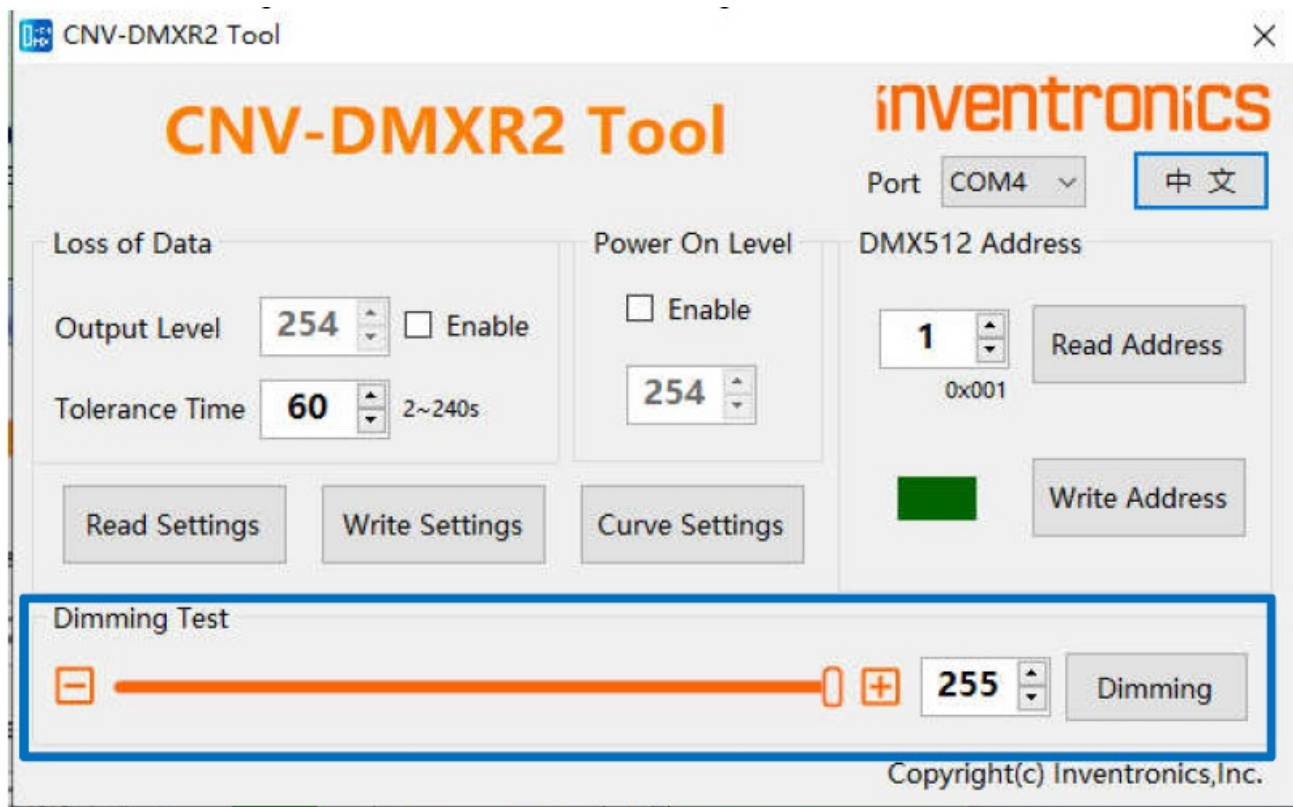

Figure 6: Dimming Value Test
- Enter dimming curve setting by clicking “Curve Settings” button The CNV-DMXR2 allows for two different dimming curves to be selected. These dimming curves are “Linear” and “Logarithmic” modes. There are more detailed parameters can be setting as shown in figure 6, which include output range ,dimming range and
The dimming value test allows for quick testing of DMX networks. To use this function, put the desired test address in the address box, and then select the desired dimming value. To send the dimming value, click on the “Dimming” button. The “Dimming Value Test” function is meant for troubleshooting and development. Inventronics also recommends testing with a standard DMX controller, as the CNV-DMXR2 tool only broadcast one command at a time, while standard DMX controllers are constantly broadcasting data. The Dimming Value Test box can be seen in Figure 6 below.